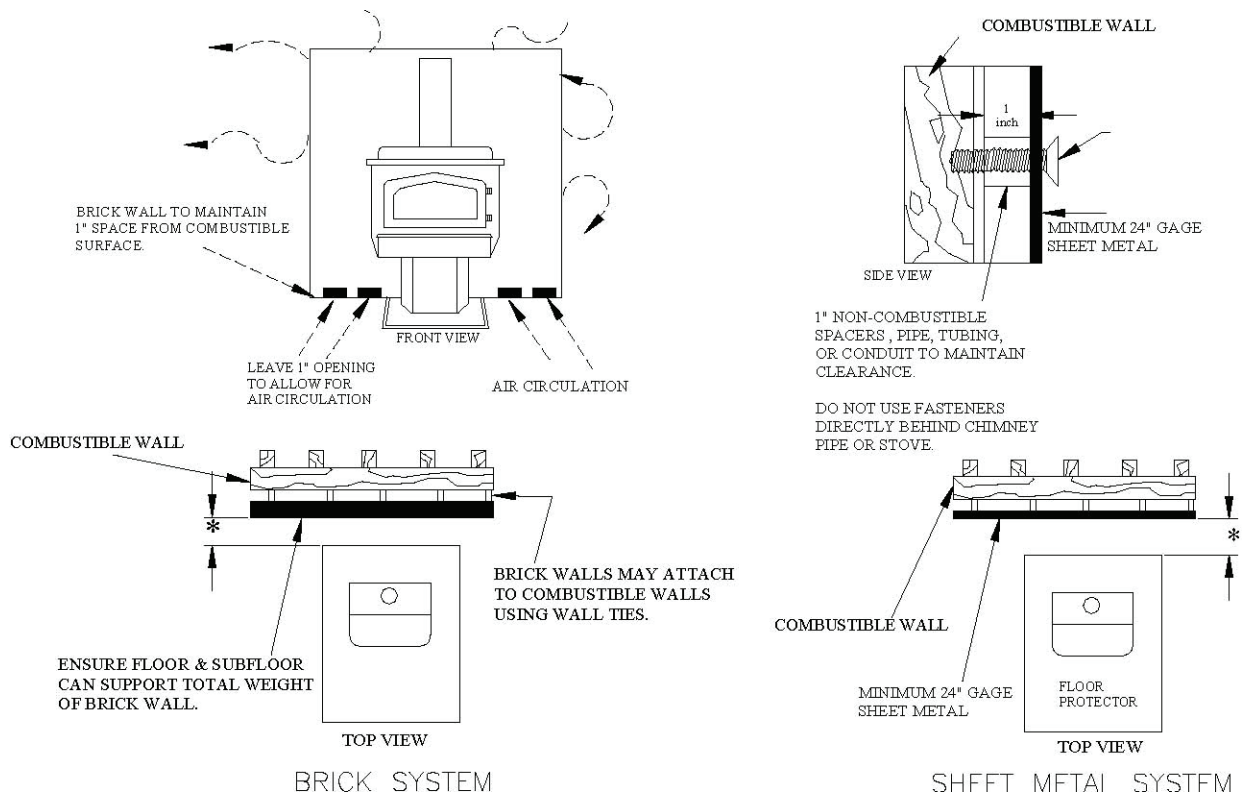

FIGURE 2: *12 RULE CLEARANCE SYSTEMS
2. Essentially, the **12 RULE** states that no clearance can ever be less than twelve inches (12" or 300mm) from a catalytic stove to any **COMBUSTIBLE WALL** regardless of the additional type of protection provided for a specific combustible wall. Refer to FIGURE 2 for 12 RULE examples.